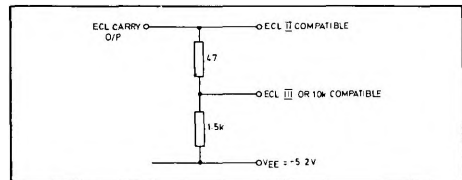

Fig.3 ECL II to ECL 10K interface
4. The ECL carry output is compatible with ECL II throughout the temperature range but can be made compatible with ECL III using the simple interface shown in Fig. 3.